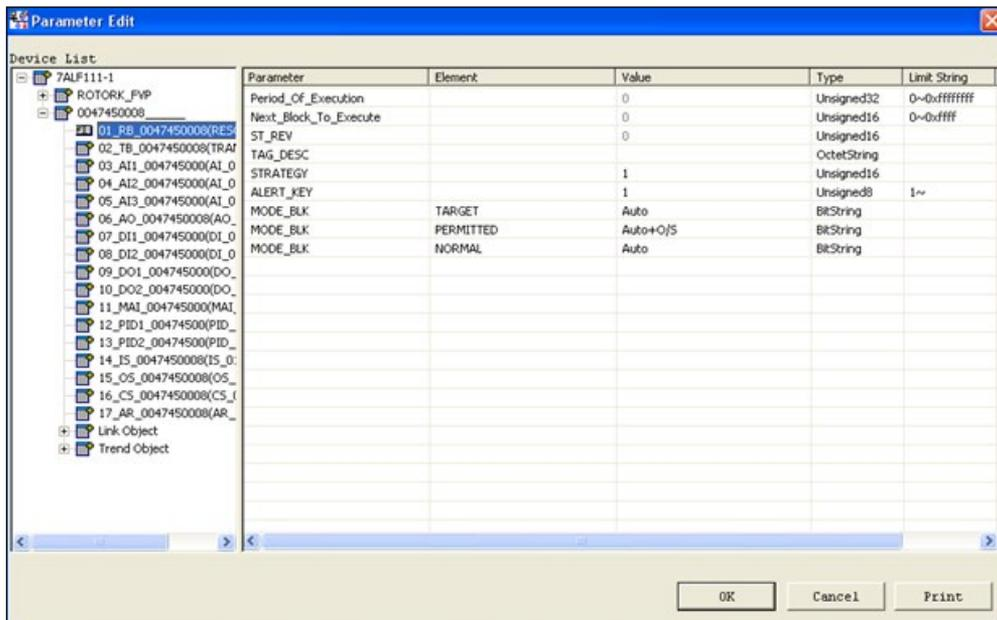

Figure 79 - Parameter Edit Window
- 1 In *Fieldbus Builder* select **Tools->Edit block parameters** menu to open the *Parameter Edit* window (Figure 79).